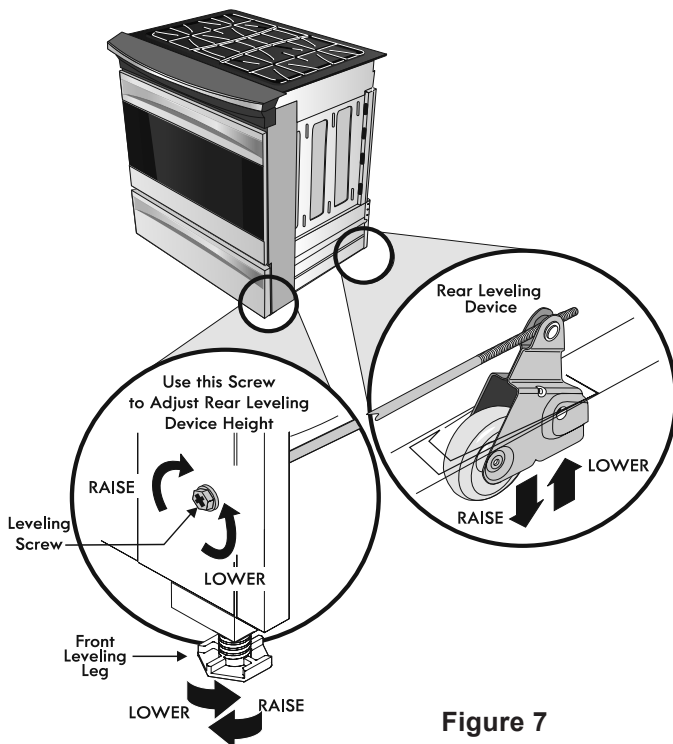

Figure 7
2. Adjust the appliance legs as follows until the underside of the cooktop (or cooktop glass) surface is sitting level on the countertop (Figure 7).